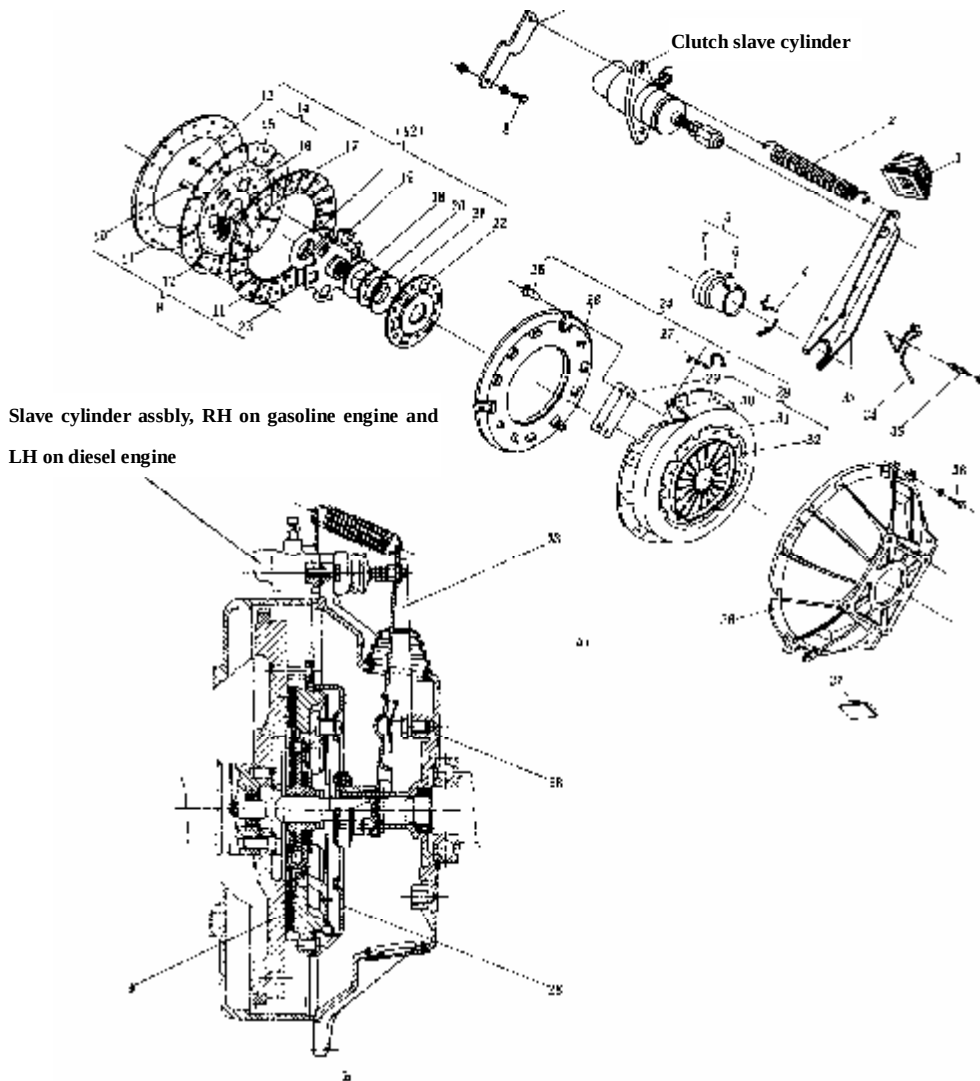

Figure 7-1-2 Diaphragm spring clutch
1. Diaphragm spring clutch construction (figure 7-1-2)